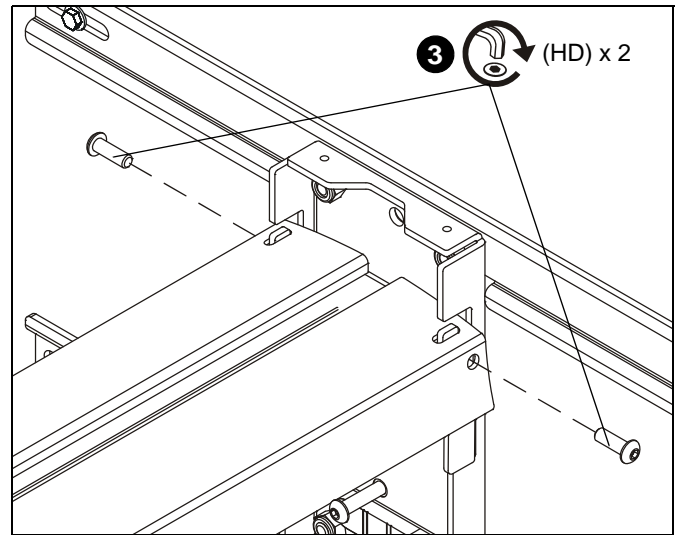

Figure 12
3. Fasten short throw arm (A) to wall plate (B) using two 1/4-20 x 3/4" button head cap screws (HD). (See Figure 12)